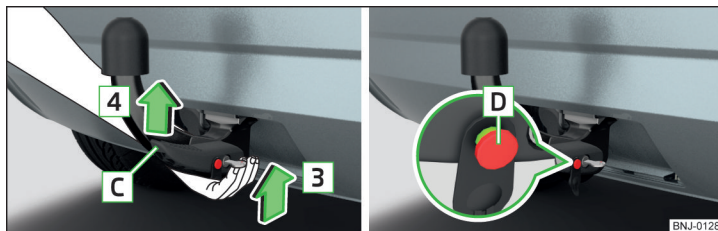

Fig. 155 Insert ball rod / trigger bolt in the extended state
- Grip the tow bar **from underneath** » Fig. 155 and insert into the mounting recess in arrow direction **3** until you hear it click into place » **!**